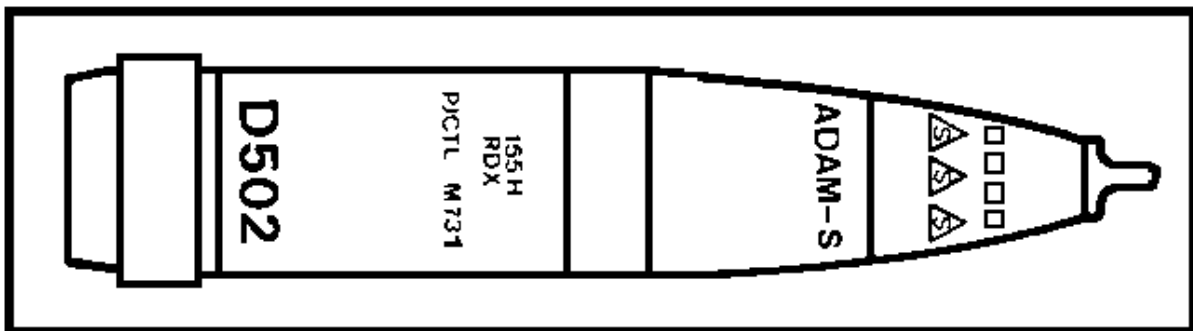

Figure 17. M731 projectile.
(9) Projectile, 155-mm, HE, M731. This projectile is also known as the ADAM round and is exactly like the M692 above except for the letter S painted in each yellow triangles and the letters ADAM-S, which indicate the shorter self-destruct time of the antipersonnel mine submunitions unit. This is a base-ejection type projectile and uses the M577 time fuze (Figure 17).